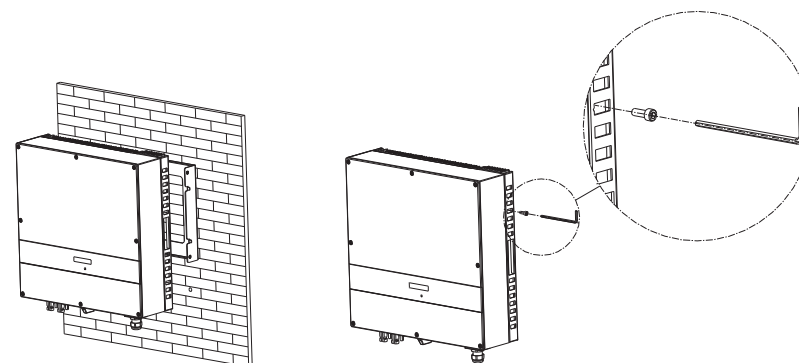

Fig 3.5
- Fix the mounting frame on the wall as Fig 3.5.